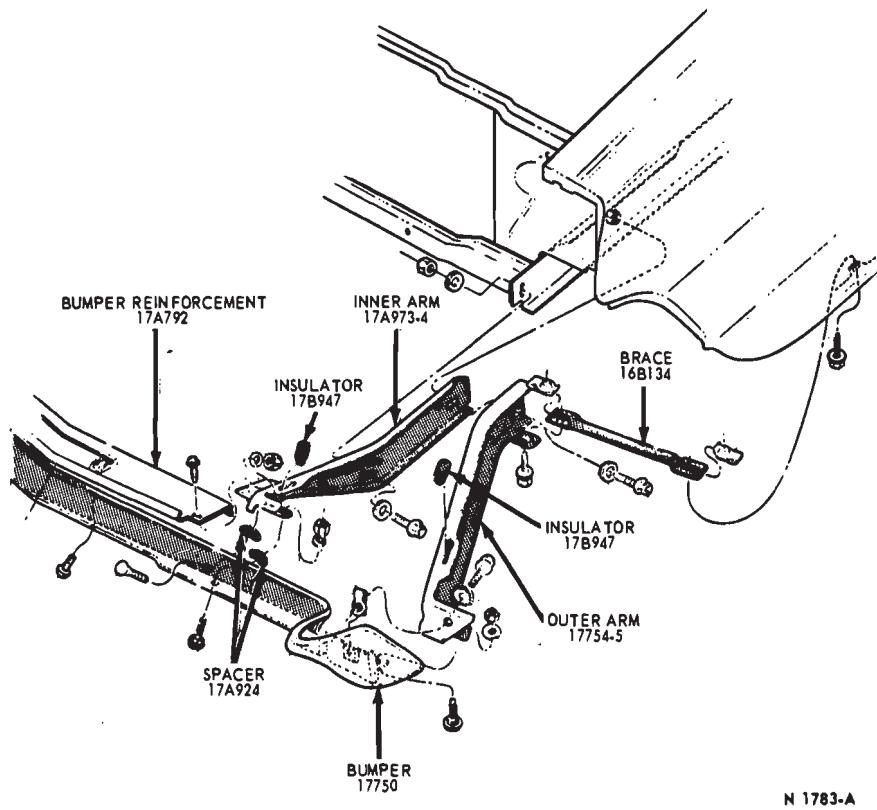

FIG. 9—Fairlane Front Bumper
2. Remove the bolts retaining the bumper arms to the frame side rail (Fig. 9). Then, remove the bolt retaining the outer arm to the bumper brace. Remove the bumper and arms from the vehicle.